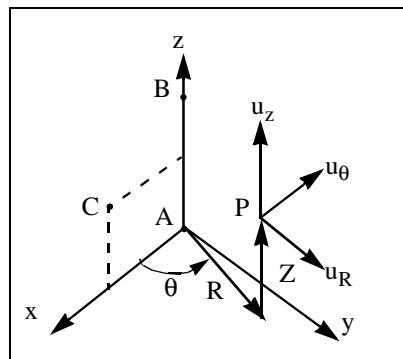

Figure 4-14 CORD2C coordinate system
6. The displacement components at P,  $(u_r, u_\theta, u_z)$ , are dependent on the location of P as shown in Figure 4-14.